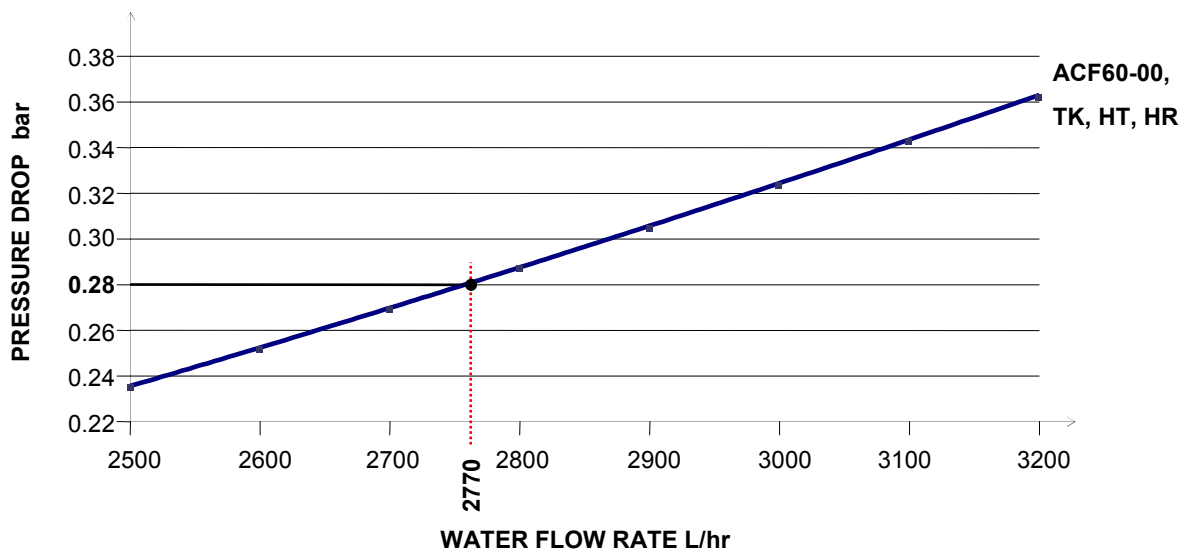

Figure 4 – Pressure drop ACF60-00, TK, HT, HR, also silenced versions
- (1) Nominal conditions: 1013 mbar, 15 °C; Actual conditions: 1000 mbar, 20 °C
- (2) Nominal running conditions: external air temperature 35°C; chilled water temperature - delivery 7.2 °C – return 12.7 °C. For conditions other than the nominal conditions, apply the cooling capacity correction factors seen in Table 12, page 21.
- (3) Nominal running conditions: external air temperature 35°C; chilled water temperature - delivery 7.2 °C – return 12.8 °C; heat recovery system water temperature - delivery 58.0 °C – return 40.0 °C. For conditions other than the nominal conditions, apply the cooling capacity correction factors seen in Table 13, page 22.
- (4) PCI 34.02 MJ/m³ (1013 mbar – 15 °C).
- (5) PCI 46.34 MJ/kg
- (6) A reduction in RPM of the fan (air delivery) is required for external air temperatures less than 33°C.
- (7) Sound source rested on a reflective surface.
- (8) Nominal running conditions: external air temperature 35°C; chilled water temperature - delivery 7.2 °C – return 12.8 °C; heat recovery system water temperature - delivery 58.0 °C – return 40.0 °C. For conditions other than the nominal conditions, apply the cooling capacity correction factors seen in Table 14, Table 15, page 22 and page 23.
- (9) ±10% in relation to the power supply and tolerance on the power draw of the electrical motors.
- (10) Nominal running conditions: return water temperature 12.7°C; chilled water flow rate 2700 L/hr. For deliveries different from the nominal, please refer to Figure 4, page 24.